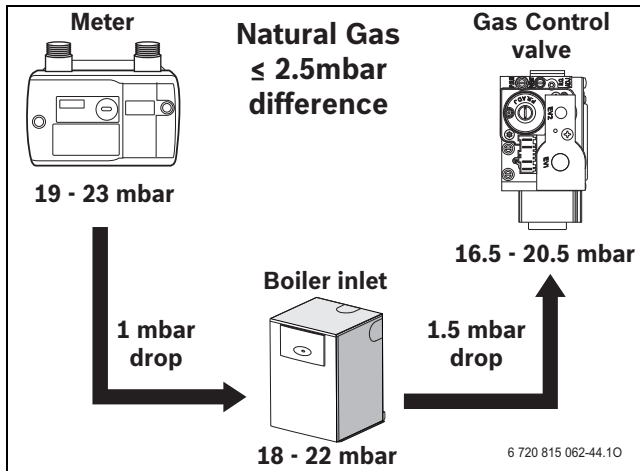
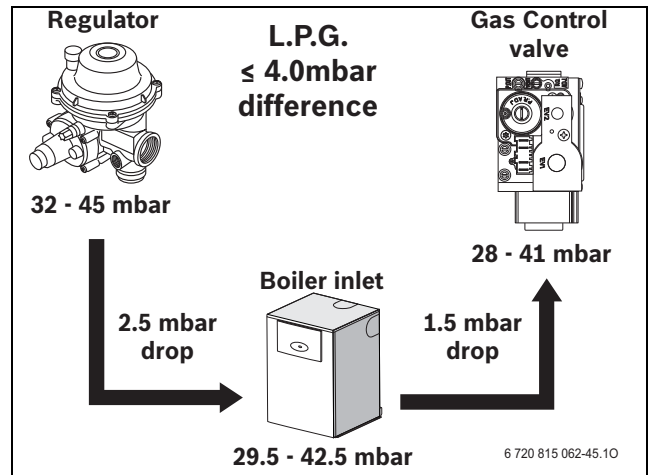

Fig. 39 Natural gas pressures
Fig. 40 L.P.G. pressures
- ▶ Check the gas supply working pressure at the gas valve conforms to values shown in figure 39 or figure 40.